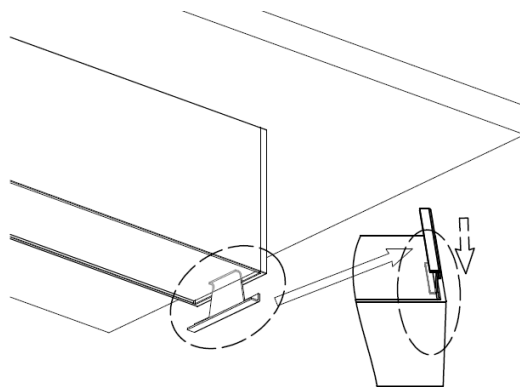

FIG. 7
- Insert the cover plate (Fig. 7)